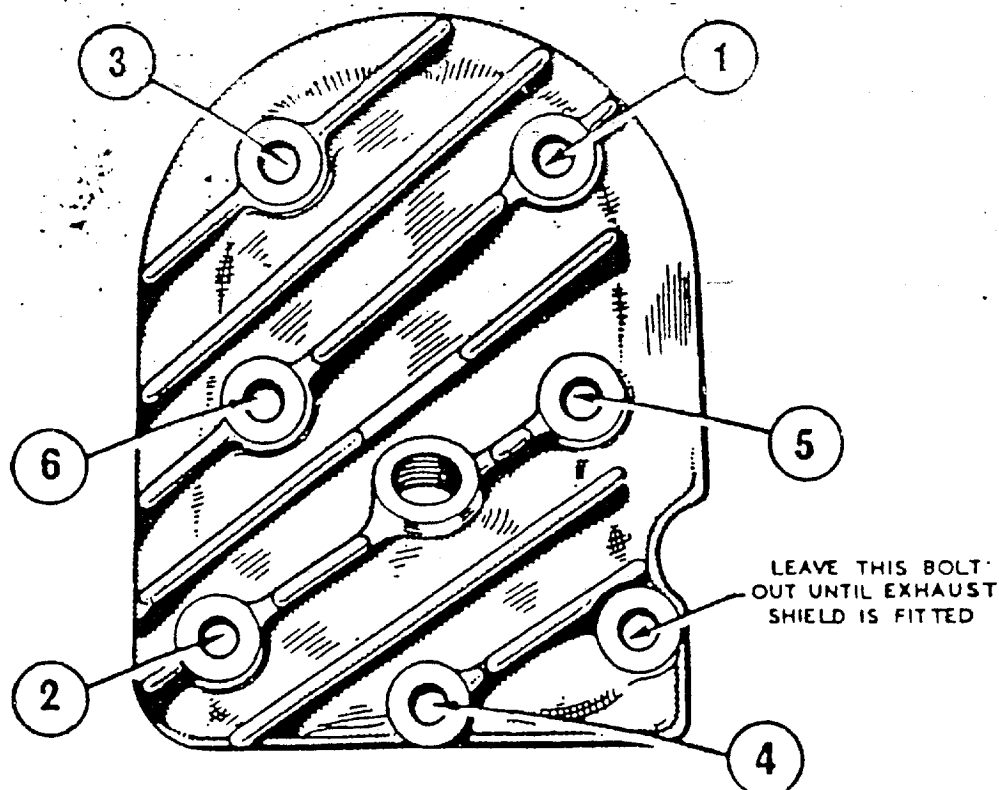

Fig. 25. Order of tightening cylinder head nuts.
3.7.13. Fitting the cylinder head. Fig. 25. Clean the cylinder head and the gasket. Fit the gasket and the head, screw in the two top bolts. Thread one bolt through the air inlet
pipe clip and the choke control clip and fit the bolt in the bottom left hand hole. Fit the remaining bolts and tighten up as shown in Fig.25. Fit the sparking plug and connect the H.T. lead to it. Fit the sparking plug casing.
| B. Cylinder head bolts loose. | Tighten the bolts, see Fig. 25. |